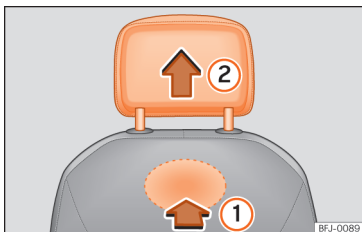

Fig. 96 Front head restraint: removal.
- To unlock it, look for the rabbet on the bottom of the backrest and press in the direction of the arrow >>> **Fig. 96 ①**.
- Remove the head restraint in the direction of the arrow **②**.